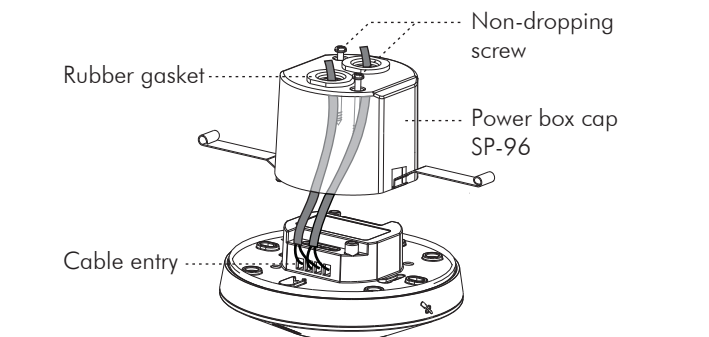

FIG.12
- 3.4.2.2 Use screwdriver to break the rubber gasket on SP-96, then feed cables through it (See FIG.12).